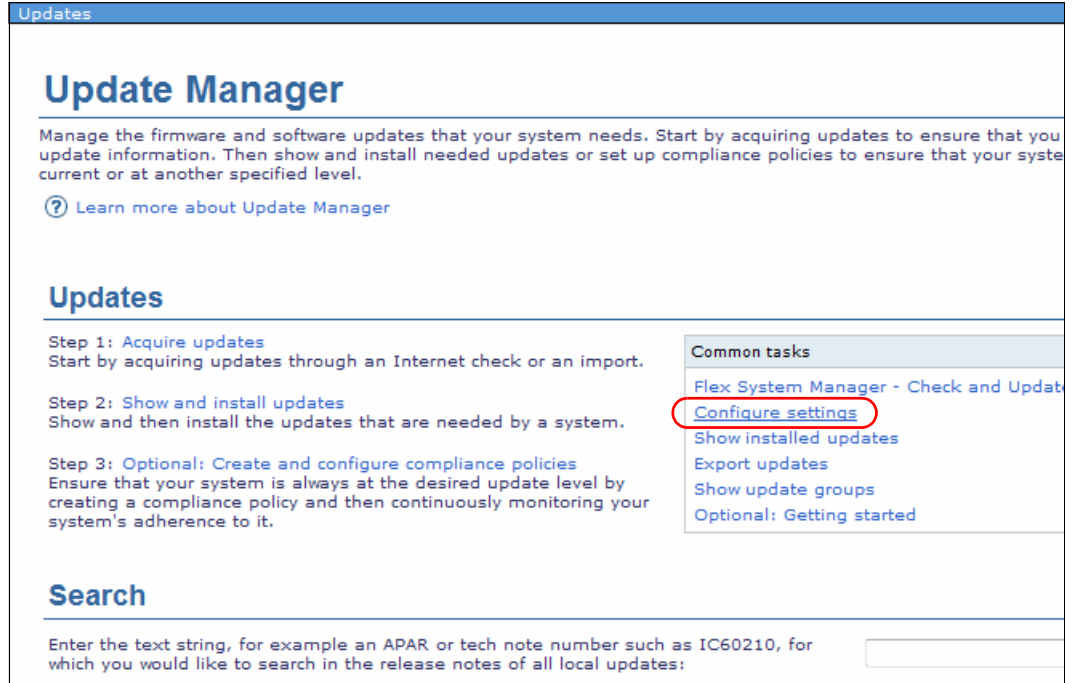

Figure 6-81 FSM Update Manager window
- From the list of manager plug-ins, click **Update Manager** to display the window that is shown in Figure 6-81.